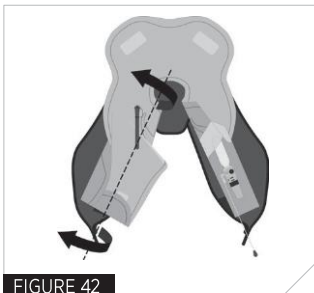

FIGURE 42
7. Fold inside edge in towards the centre of the bladder along fold line 7 (Fig 42).